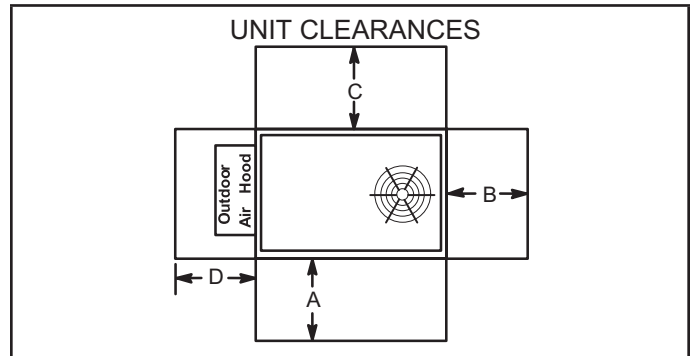

FIGURE 1
See FIGURE 1 for unit clearances.
- 2 - Specified installation clearances must be maintained when installing unit. Refer to FIGURE 1.